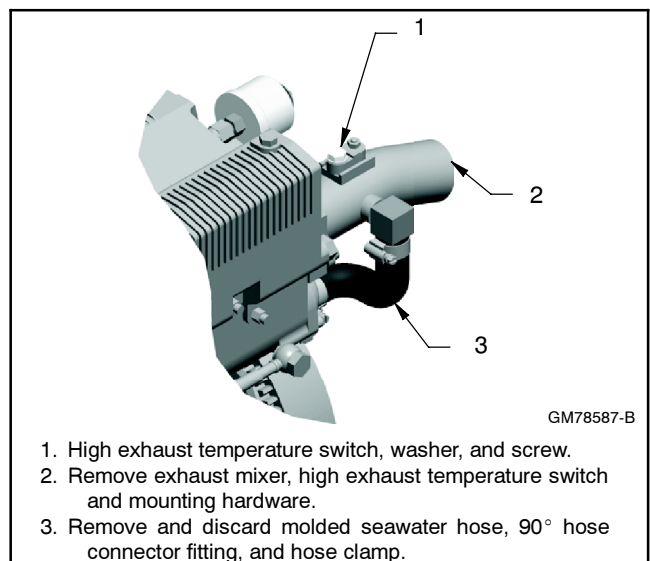

Figure 2 Exhaust Mixer Removal
- 2.2 Remove the molded seawater hose, 90° hose connector, and hose clamp from the exhaust mixer. See Figure 2, item 3.